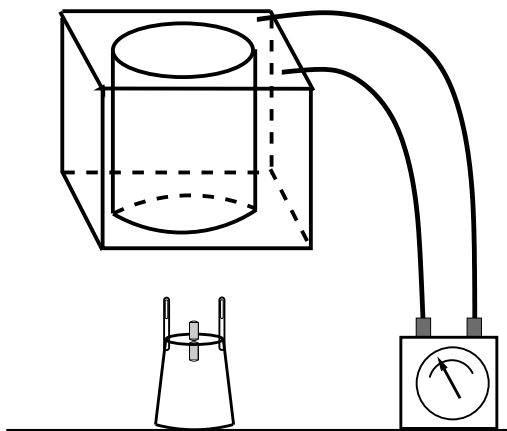

Figure 12.5: Moving the coil in a magnetic field.
Use the big coil made of red wire at your lab bench. Using the banana plug leads, connect the coil to the galvanometer at your station. The galvanometer has an indicator needle whose deflection is proportional to the potential difference so that it acts as an analog voltmeter. Remove the motor coil from your stand, but leave the magnets. See Figure 12.5.
1. Next, hold the big coil above the magnets (Figure 12.5), and steadily move the coil directly towards the magnets (keep the axis of the coil aligned with the axis of the magnets). While the coil is moving, observe the galvanometer. Does the needle move? In what direction does it deflect? Repeat, but this time steadily move the coil directly away from the magnets. In what direction does the needle deflect this time? Write down your observations about moving a conductor in a magnetic field.